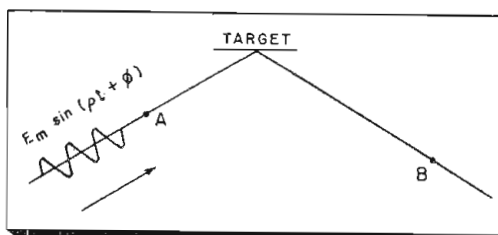

Fig. 11: Relations of observer, target pulse.
This reflected signal, even though the time is now  $t_2$ , can be expressed mathematically, except for amplitude, by (1). It is important to have a full understanding of this fact if one is to see mathematically, how MTI works. Perhaps Fig. 11 will help to clarify the above statement concerning the echo equation.